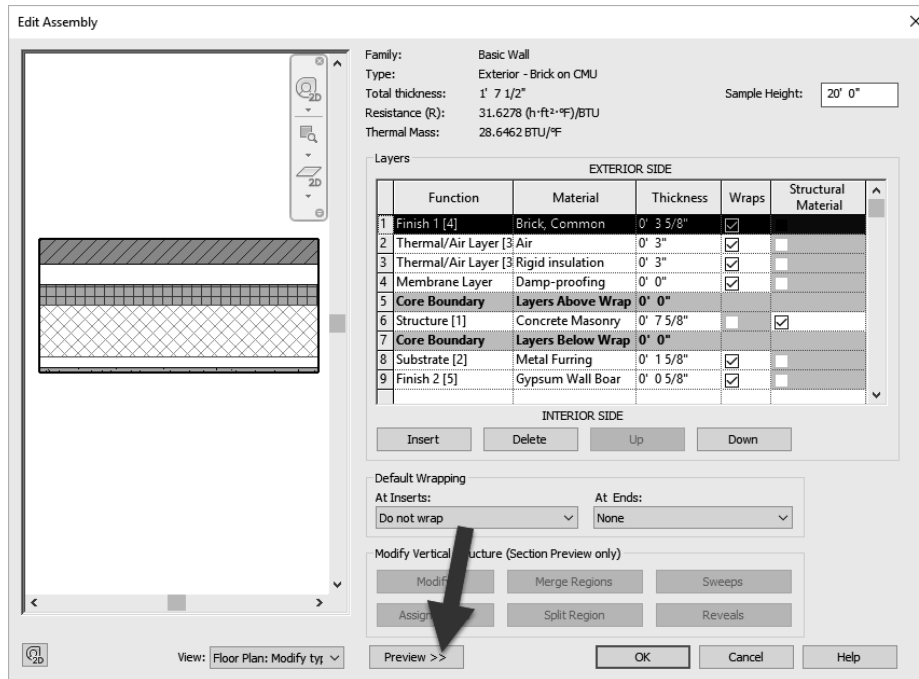

FIGURE 3-2.5 Edit Assembly
- Finally, you are in the *Edit Assembly* dialog box. This is where you can modify existing wall types or create new ones. Click **<<Preview** to display a preview of the selected wall type (Figure 3-2.5).
Things to notice in the *Edit Assembly* dialog box (Figure 3-2.5):